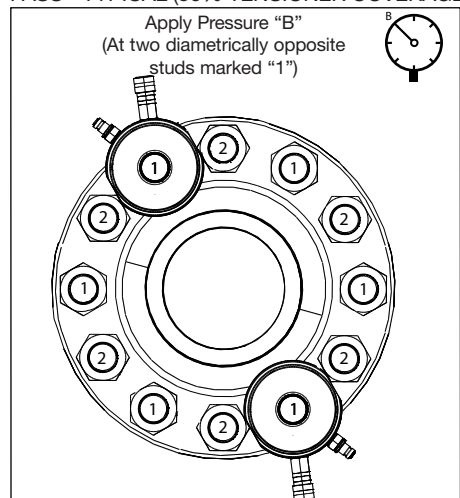

FIGURE 14, RECHECKING FIRST PASS TENSION (50% TENSIONER COVERAGE)
- Assemble tensioners on any two "first pass" bolts (labeled "1") located diametrically opposite of each other. See Figure 14.
- Verify that the oil pressure gauge indicates zero (0) psi/bar. If any pressure is indicated, release the hydraulic pressure SLOWLY by opening the pump pressure release (return to tank) valve.